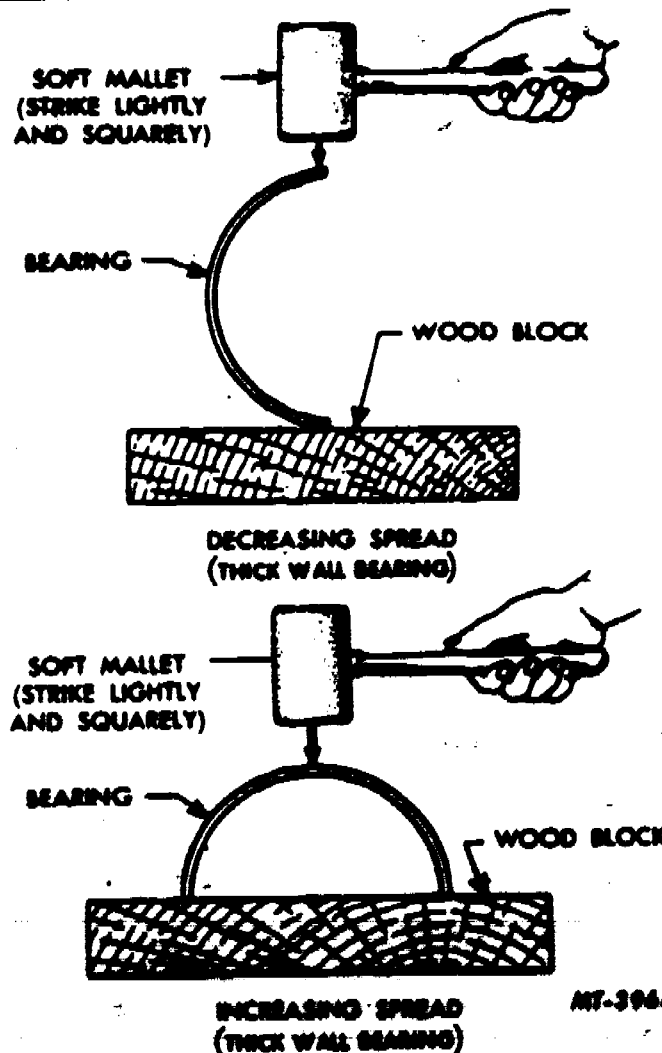
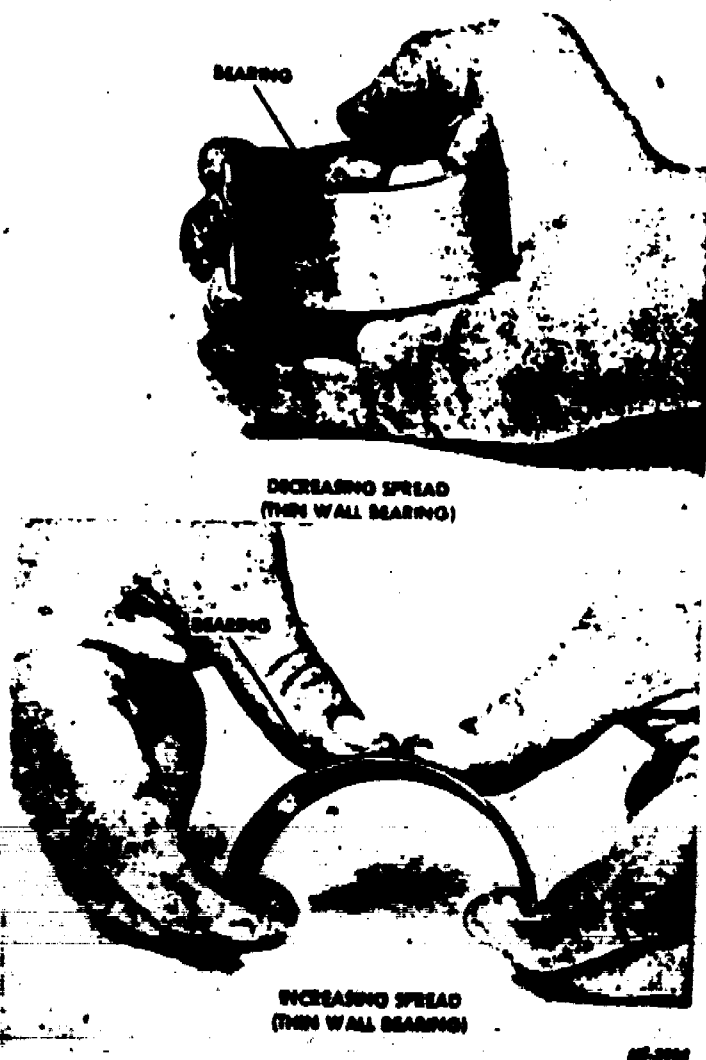

Fig. 32 - Adjusting Bearing Spread (Thick Wall Bearing)
Fig. 33 - Adjusting Bearing Spread (Thin Wall Bearing)
bearing (main bearing) on a wood block and strike the side lightly and squarely with a soft mallet, Fig. 32. The spread on a thin wall bearing (connecting rod bearing) may be altered with the thumb and forefingers as shown in Fig. 33. Recheck measurement and, if necessary, readjust until correct spread is obtained.
2. **Insufficient Spread.** If measurement indicates insufficient spread, place thick wall bearing (main bearing) on a wood block and strike the back of the bearing lightly and squarely with a soft mallet, Fig. 32. The spread of a thin wall bearing (connecting rod bearing) may be altered with the fingers and the palm of the hand, as shown in Fig. 33. Recheck the measurement and, if necessary, re-just until correct spread is obtained.